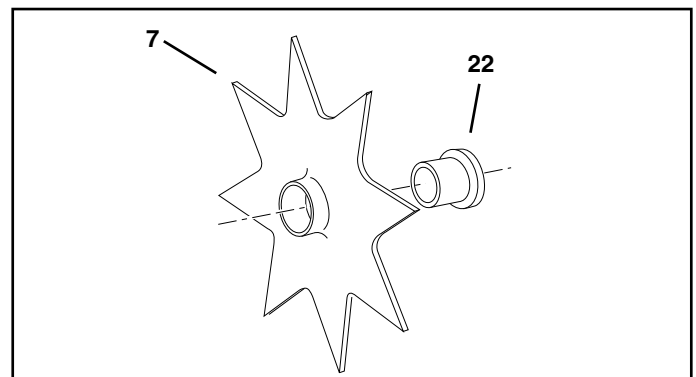

FIGURE 12
- Push a flanged bearing (22) into each of the seven spike disks (7), from the side shown in figure 12.